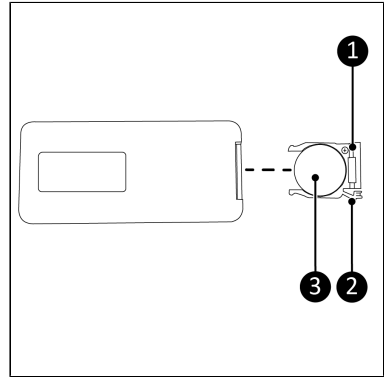

Figure 33.
1. Push the tab (Figure 33, pos. 2) on the battery tray (Figure 33, pos. 1) and pull the battery tray out from the remote control.
2. Remove the old battery (Figure 33, pos. 3) from the battery tray.